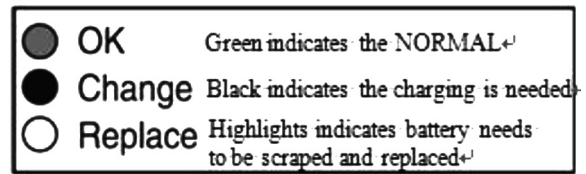

Figure 8
6. If the specific weight of electrolytes level of the battery drops to be less than 1.18kg/L, you should immediately charge the battery to prevent the acidulation of the pole plate. After first charging of the newly used battery, it is better to discharge the battery at a rate of 10 hours discharge rate, then continue the charge to make the battery fully play its role and output adequate capacity. So far as 2506-1104 battery used in this machine, you should judge the status of the battery regularly according to the gravimeter color, as shown in Fig.8.